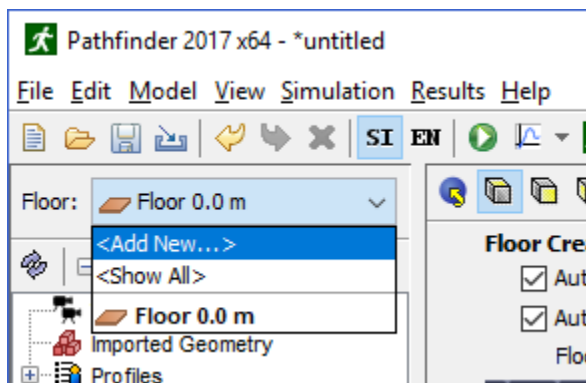

Figure 16. Adding a new floor
1. Click on the floor drop-down box above the Navigation View, and select **<Add New>** as shown in Figure 16. A dialog will open asking for the floor location.
To change the active floor, click the floor drop-down box as shown in Figure 16, and select the desired floor. This will make that floor active and all other floors non-active.
To show all floors click the floor drop-down box as shown in Figure 16, and click **<Show All>**.